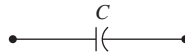

Figure 5.4 A capacitor.
The impedance of the capacitor shown in Fig. 5.4 can be written as $Z_C = \frac{1}{j\omega C} \Omega$, where C is the capacitance in farad (F) and ω is the angular frequency in rad/s. If $C = 20 \mu\text{F}$ and $f = 60 \text{ Hz}$, the impedance of the capacitor can be written as a complex number in rectangular form as